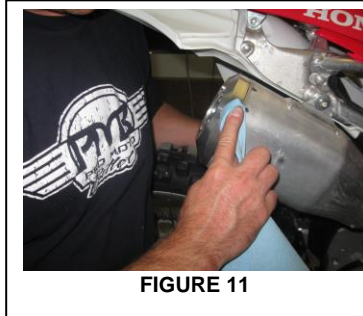

FIGURE 11
16. Wipe the excess silicone off the seams of the end cap. **FIGURE 11**